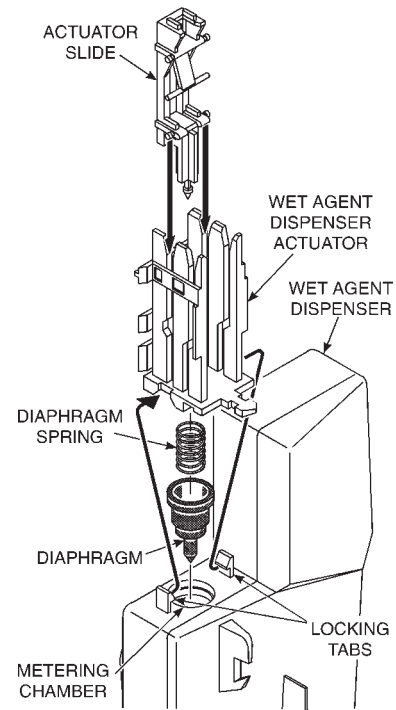

Fig. 2-18
6. Remove wet agent dispenser actuator by spreading the two (2) locking tabs. (Fig. 2-18)